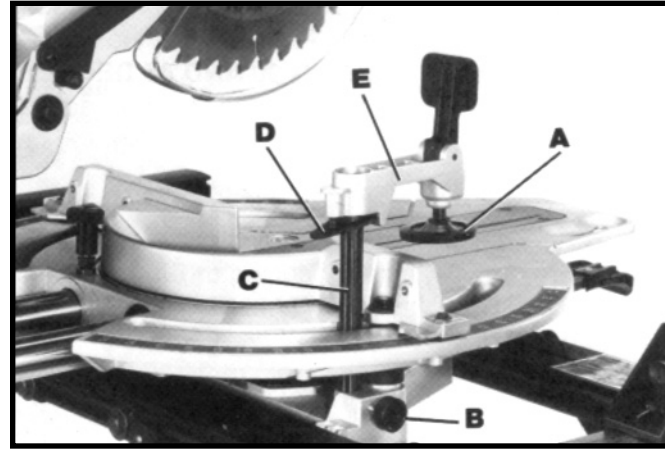

Fig. 38
1. The height of the work clamp (A) Fig. 38, can be adjusted by loosening lock knob (B) and moving post (C) up or down, or compressing lock lever (D) and sliding clamp body (E) up or down. After height of clamp (A) is adjusted, tighten lock knob (B) and/or release lock lever (D).